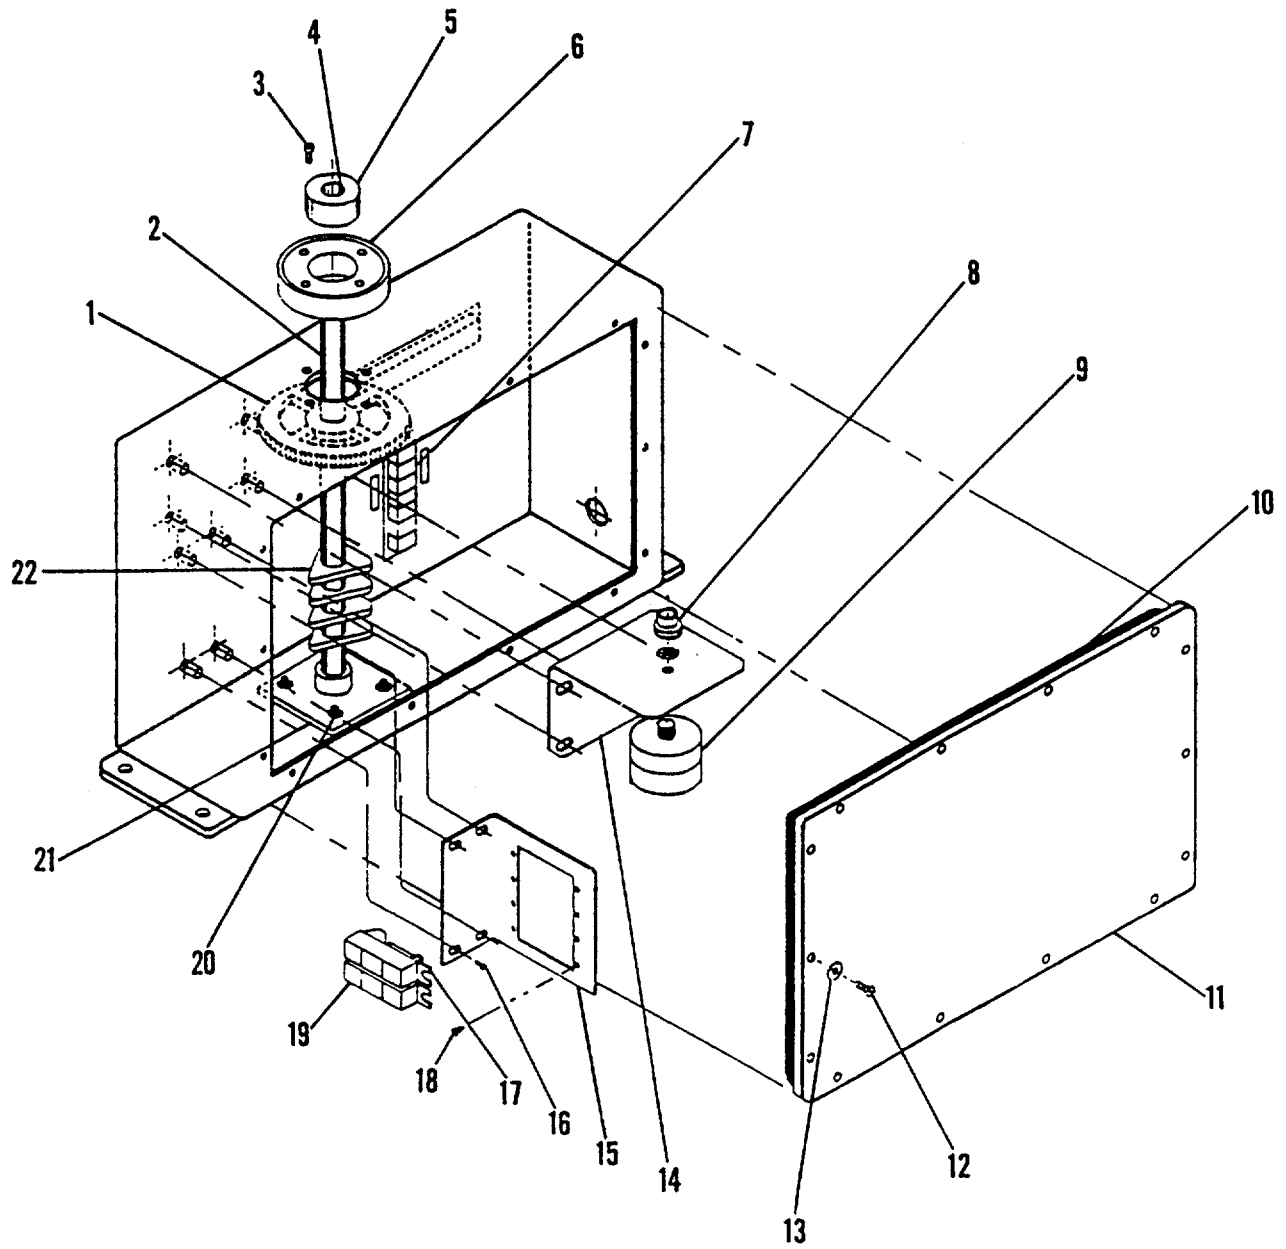

Figure 3-8 Feedback Unit #2
**3-16 Repair Feedback Unit #2 (FIGURE 3-8)**